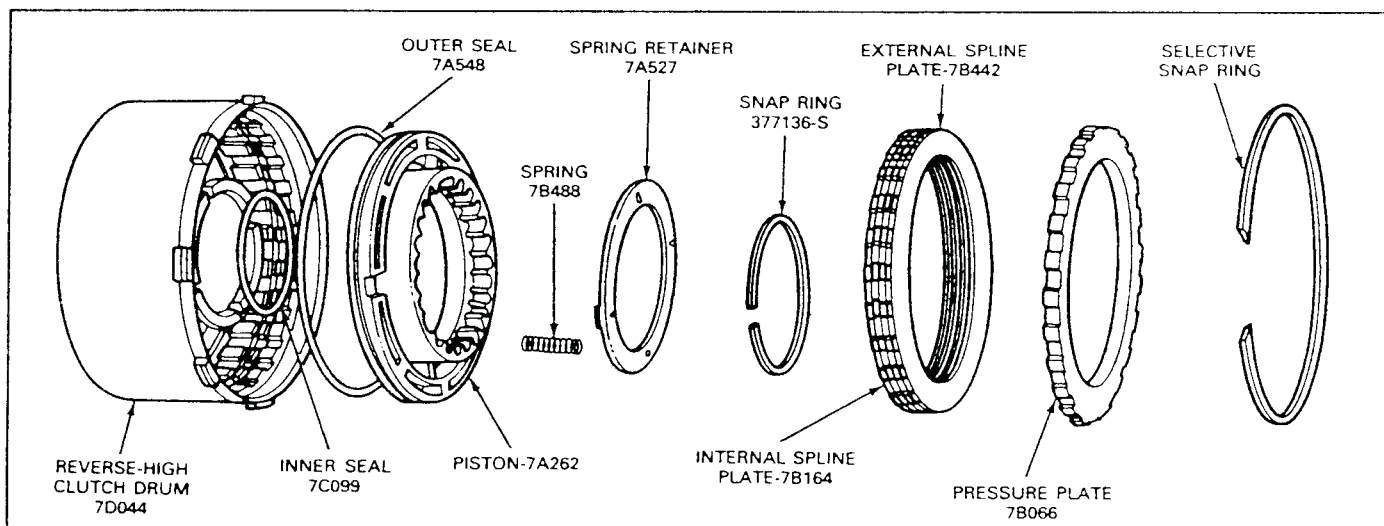

FIG. 40 Reverse-High Clutch Disassembled
2. Remove the pressure plate and the drive and driven (internal and external spline) clutch plates (Fig. 40).
6. Remove the piston outer seal from the piston and the inner seal from the clutch drum (Fig. 40).
6. Clutch plate usage varies with each model, refer to the specifications at end of this Section for the number of plates required. Dip the clutch plates in clean transmission fluid. Install the clutch plates alternately starting with a steel drive (internal) plate (Fig. 40). When new composition clutch plates are used, soak the plates in automatic transmission fluid, Motorcraft MERCON® Multi-Purpose Automatic Transmission Fluid XT-2-QDX or DDX (ESP-M2C166-H) or equivalent, for 15 minutes before they are assembled.